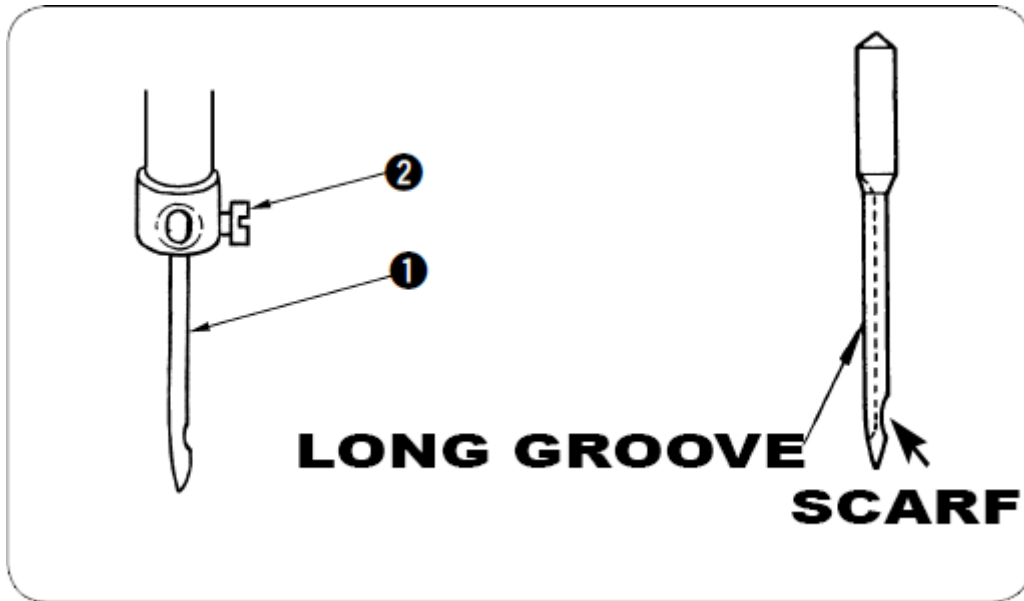

Figure 11
2. Loosen needle clamp screw (Fig 11, Item 2) and hold needle so that the long groove in the needle is facing exactly to the left. This means the scarf should be facing the inside of the machine body.